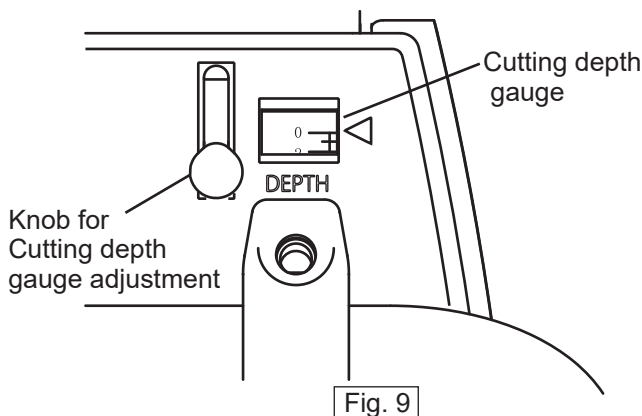

Fig. 9
- The cutting depth gauge indicates the cutting depth at work. The cutting depth gauge is compatible with 14 to 18 inch blades and should be used with “the knob for cutting depth gauge adjustment” to adjust the position of the scale. (Fig.9)